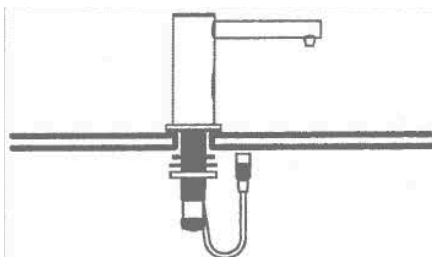

FIGURE 2
2. When connecting the cable, ensure that the marked arrows are aligned and the connector is fully inserted. **See Figure 2**